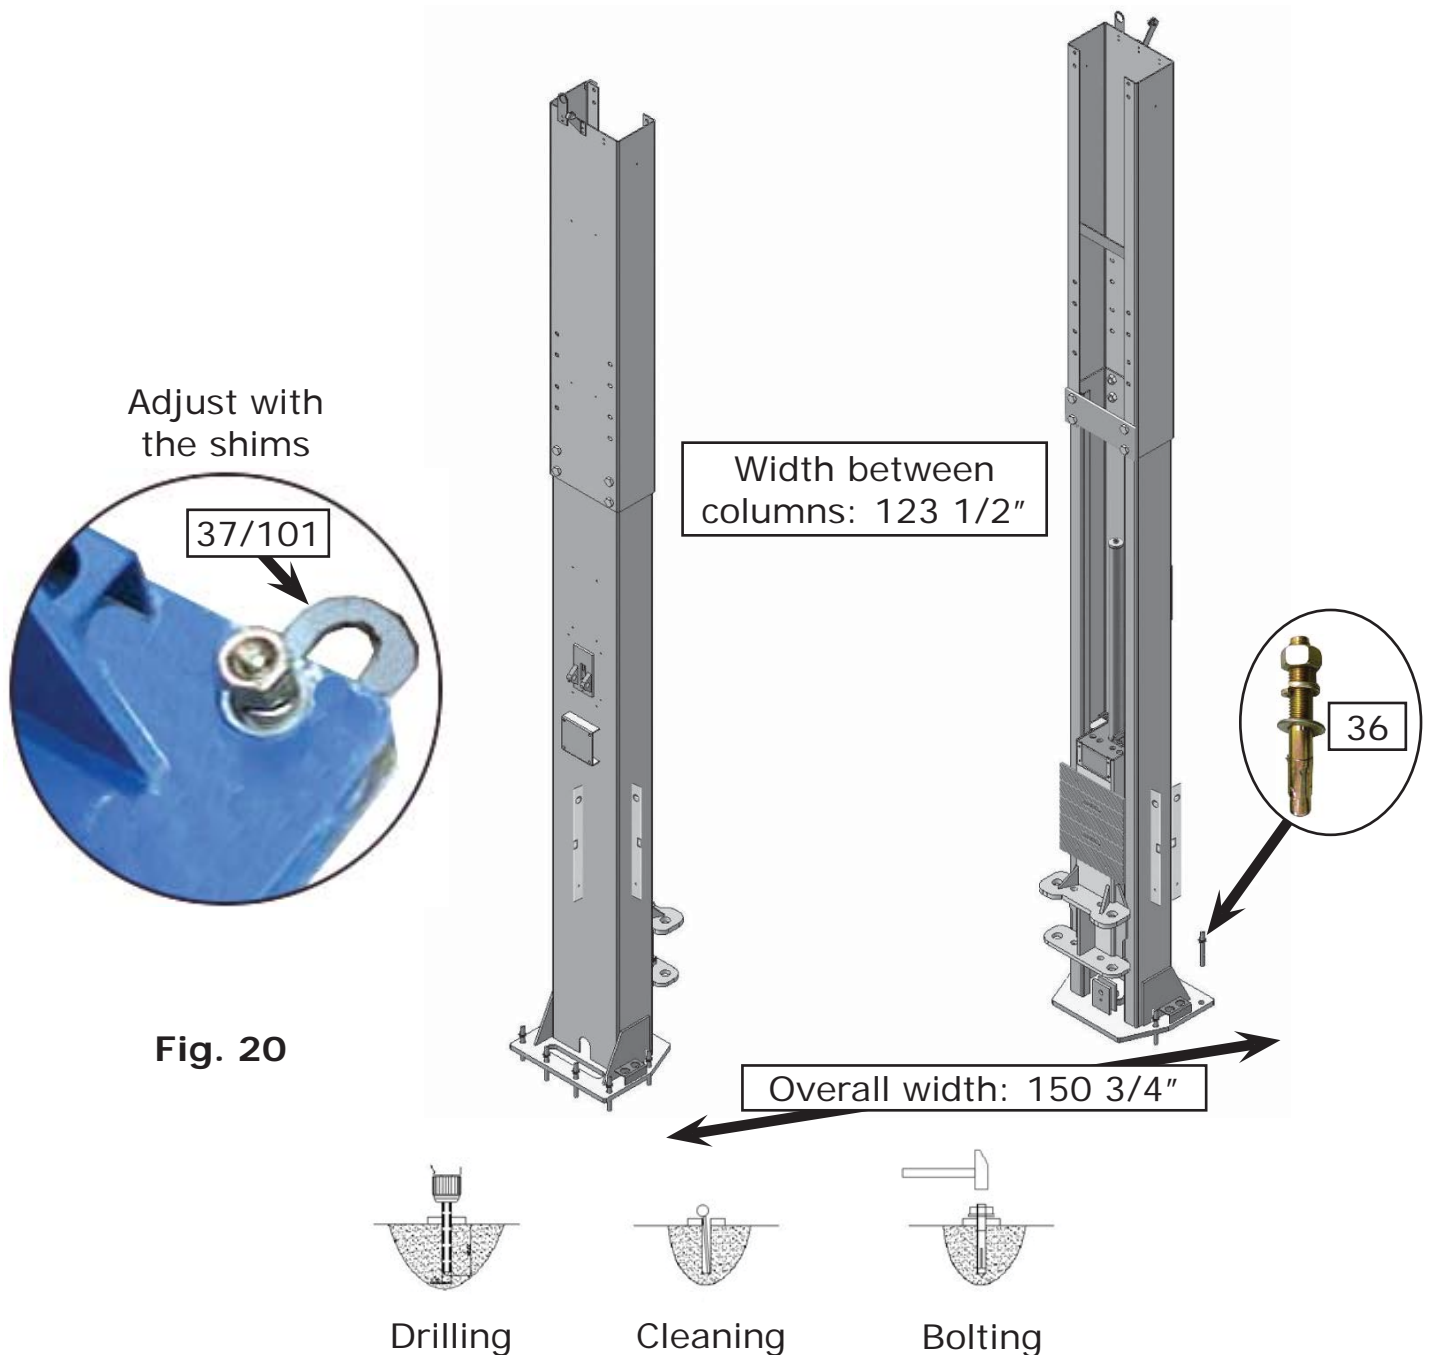

**Fig. 19 - Special Low Setting**
3. When the ceiling height is less than 4200mm (165 3/8"), connect the outer columns with the upper hole. For this height setting you will need to purchase the shorter cables (part#217063) (**See Fig. 19**).